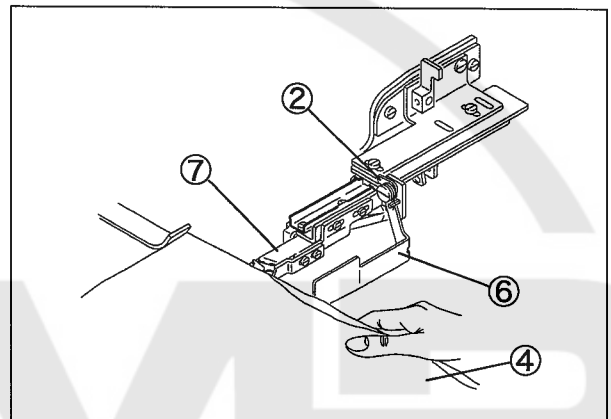

Fig. 16
(3) Sewing the material. (Fig. 16)